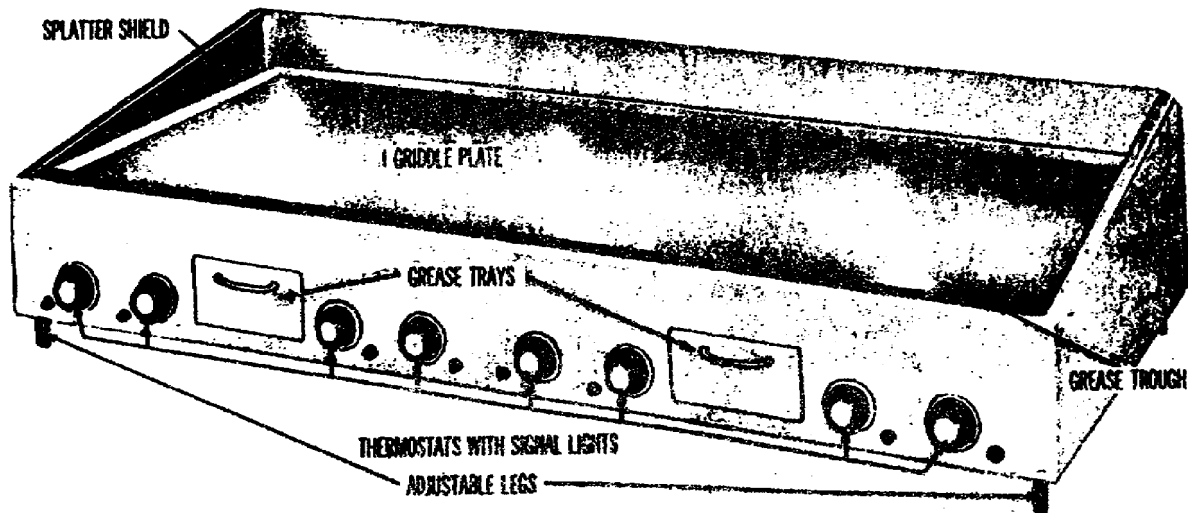

Figure 14. Electric griddle.
(2) Electric. To preheat electric ovens, the thermostat is set at the desired temperature and the three-heat switches are turned to HIGH. (Setting the thermostat to its highest reading will not speed up the process.) When the desired temperature is reached, the oven should be allowed to stand for 15 minutes then the three-heat switches should be reset for the desired baking temperature. The rules for loading are the same as those for gas ovens. Electric ovens are shut off by turning the three-heat switches to OFF and are cooled with doors open.
(3) Oil. The oil-fired oven burner is lighted in the same way as the oil range burner. Once the burner is lit, the secondary air damper should be opened wide. A clean, bright fire is necessary to heat the top compartment of the oven adequately without overheating the oven deck immediately above the combustion chamber. A dull, smoky fire will overheat the nearest oven plate and underheat the top compartment. A smoky fire can be corrected by adjusting the secondary air supply to provide more draft. When the ovens have reached the desired temperature, the oil valve should be adjusted to maintain the temperature. (The operator will learn the proper valve settings as he uses the oven.) The oven should be loaded the same as gas and electric ovens. To shut off oil-burning ovens, the burner is shut off and swung out just as the range burner is.
14. **GRIDDLES.** Griddles may be heated by gas or electricity and may be mounted on a table, counter, or range. Gas griddles are heated by natural, manufactured, or LP gas. The gas burners are located under the griddle plate, and the flow of gas to the burners is controlled by valves. The burners are lit from pilot lights. The griddle has a grease trough, and excess grease drains through the trough into tray mounted under the griddle. Electric griddles are heated by a series of heating units under the griddle. The heat of these units is forced up against the griddle by a pad of insulation under the units. The temperature is controlled either by three-heat switches or by a thermostat. The electric griddle (fig. 14) has grease troughs on all sides which drains grease through a drip tube into one or more removable grease trays.